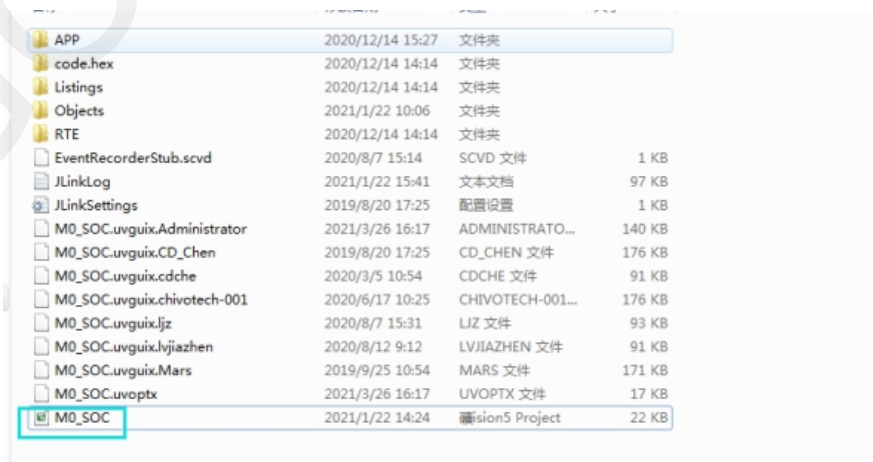

Figure 5 : Open the M0_SOC Project File
3) Use Keil5 to open the M0_SOC project file in driver program documents as shown in figure 5.